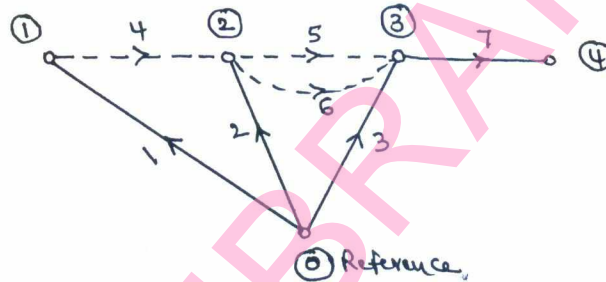

Fig.Q1(b)
- b. For the tree shown in Fig.Q1(b), form the basic cut set matrix B and basic loop incidence matrix C and hence determine $C^t B$. (10 Marks)